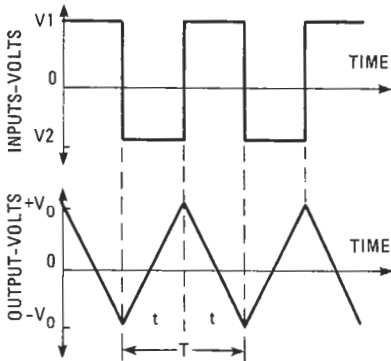

FIG. 6—IF A SQUAREWAVE is input to an integrator, the output will be a triangular wave.
When a squarewave (see Fig. 6-a) is input to an integrator, the resulting output is a triangular wave (see Fig. 6-b). (Note that for a positive input, the output is the negative integral, as is indicated by the circuit's transfer function.) Assuming a symmetrical input, that is $|V1| = |V2|$, the slopes of the ramps that make up the triangular wave are equal to $2V0/t$, where t is equal to $1/2$ the period (T) of the input squarewave. It is then a simple matter to measure $V0$ and calculate that slope.